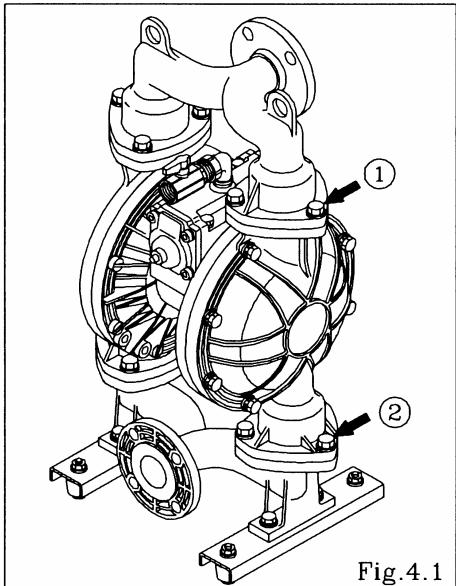

Fig.4.1
See [9. Exploded View] on after p. 13. (Fig. 4.1, 4.2 and 4.3 show the NDP-50 BS□.)
- Remove the 6 (8 on the NDP-80) retainer bolts 1 from the out manifold, and remove the out manifold. [Fig.4.1]
- Remove the 6 (8 on the NDP-80) retainer bolts 2 from the in manifold, and remove the in manifold. [Fig.4.1]